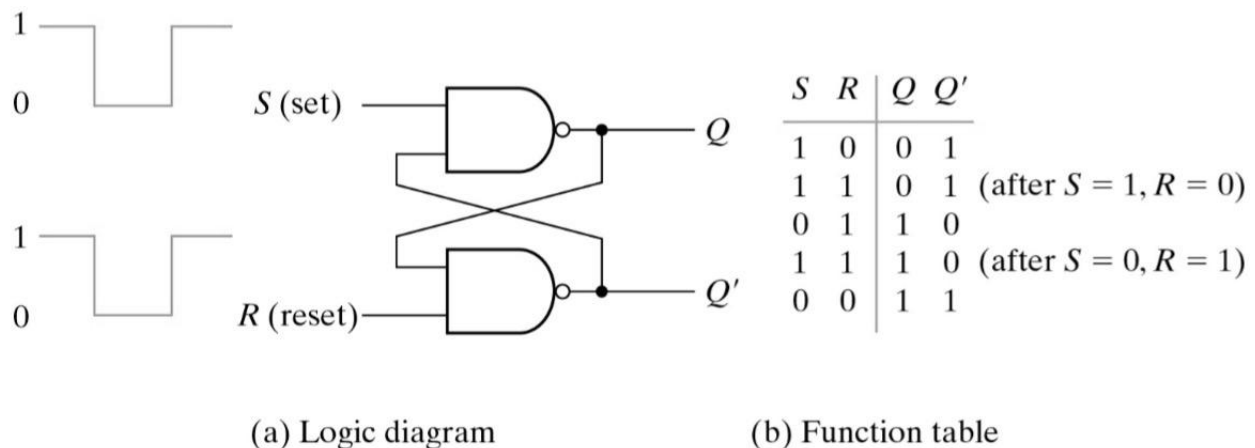
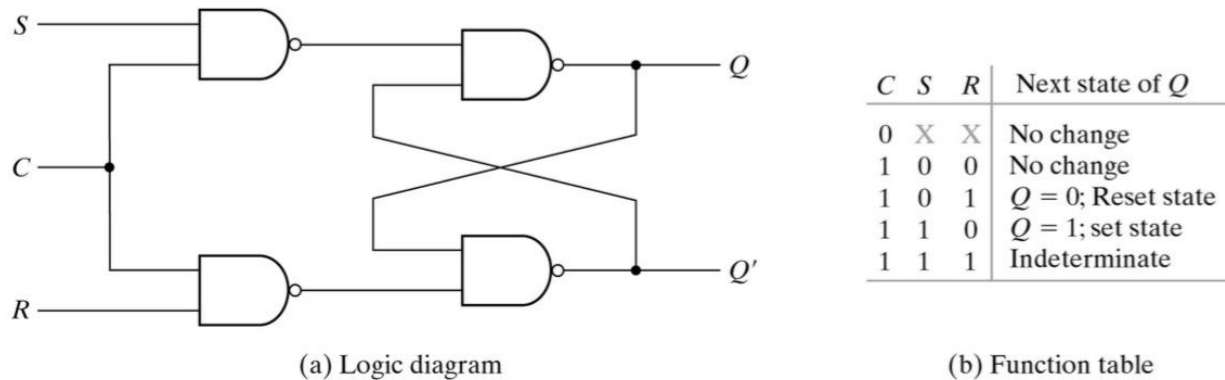

Figure 9.1: Building block of SET/ RESET Latch with NAND gates.
Figure 9.2: SET/ RESET Latch with NAND gates.
As shown in **Figure 9.1**, when $S = 0$ and $R = 1$ latch is in SET state and when $S = 1$ and $R = 0$ latch is in RESET state. Thus, it is called a $S'R'$ latch. To make an SR latch using $S'R'$ latch as a building block, two additional NAND gates are being used as shown in **Figure 9.2** with an additional control signal, which enables the S and R inputs to update the latch states Q and Q' . As in **Figure 9.2**, when $S = 1$ and $R = 0$ latch is in SET state and when $S = 0$ and $R = 1$ latch is in RESET state, thus making it an SR latch.
If both S and R inputs go to logic HIGH at the same time with control input HIGH as shown in the functional table of **Figure 9.2**, output states go to indeterminate state. One way to alleviate this undesired condition of the indeterminate state is to ensure that inputs S and R are never equal to logic HIGH at the same time. This is done in the D type latch as shown in **Figure 9.3**. This latch has only two inputs D (Data) and C (control or enable). The D goes directly to the S input and its complemented version goes to R input. If $D = 1$ with $C = 1$ then latch is in SET state and if $D = 0$ with $C = 1$ then it is in RESET state.
D. Procedure: *Exercise 1:* Design circuits as given in Figures from **Figure 9.1** to **Figure 9.3** and verify their functional (truth) tables. Prepare your tables as given in the example table below.